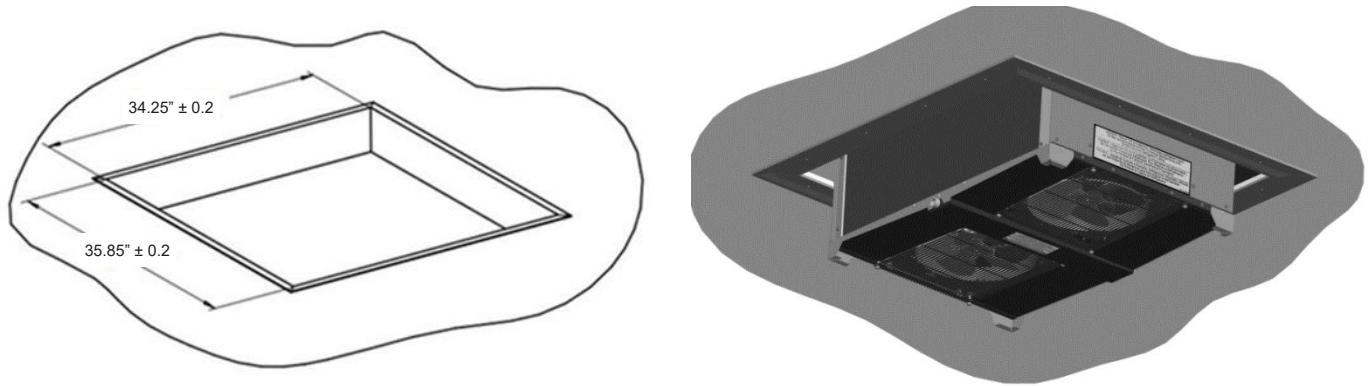

Figure 7 –Installation opening dimensions (inches) and TRIM assembling suggestion
- Chamber Roof – In this configuration, the unit is mounted on the roof of the chamber into the opening shown in Figure 7. The chamber's structure must be reinforced and able to sustain the system's weight.